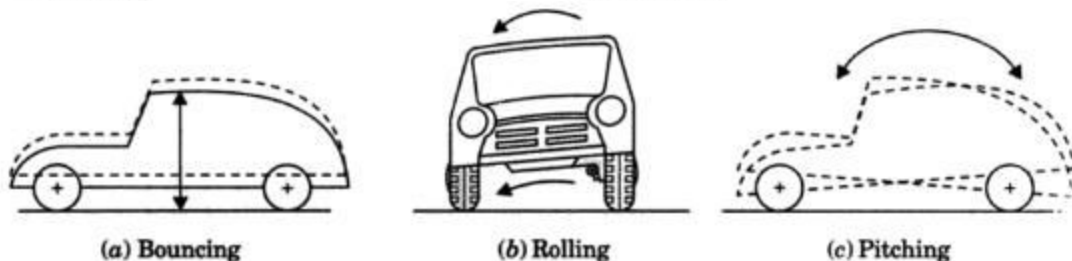

Fig. 6.18. Basic suspension movements.
(i) They reduce the tendency of the carriage unit to continue to "bounce" [Fig. 6.18 (a)] up and down on its springs after the disturbance that caused the linear motion has ceased.
In “**rolling**”, [Fig. 6.18 (b)] *the carriage unit rolls about the longitudinal axis of the vehicle* while in “**pitching**”, *the carriage unit rolls about a transverse axis.*
- *Pitching* [Fig. 6.18 (c)] is a more complex phenomenon and is affected by what is known as “*vibration coupling effect*” *i.e., interaction between front and rear suspension*. Since the pitching persists for a longer duration if the rear suspension has a lower natural frequency than the front suspension, therefore, the natural frequency of the rear suspension is normally made higher than that of the front.